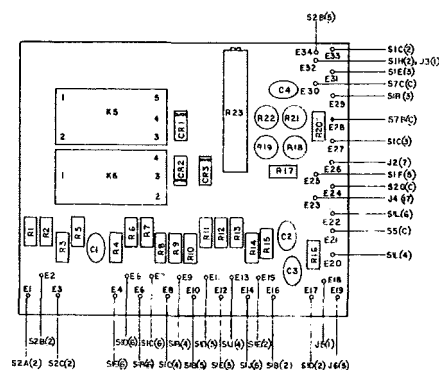

Figure 5-4. Switch Components Assembly (A5) Adjustments
d. Adjust potentiometer R23 for a voltmeter indication of  $0\text{V} \pm 10\mu\text{V}$ . See Figure 5-4. for the location of this adjustment.